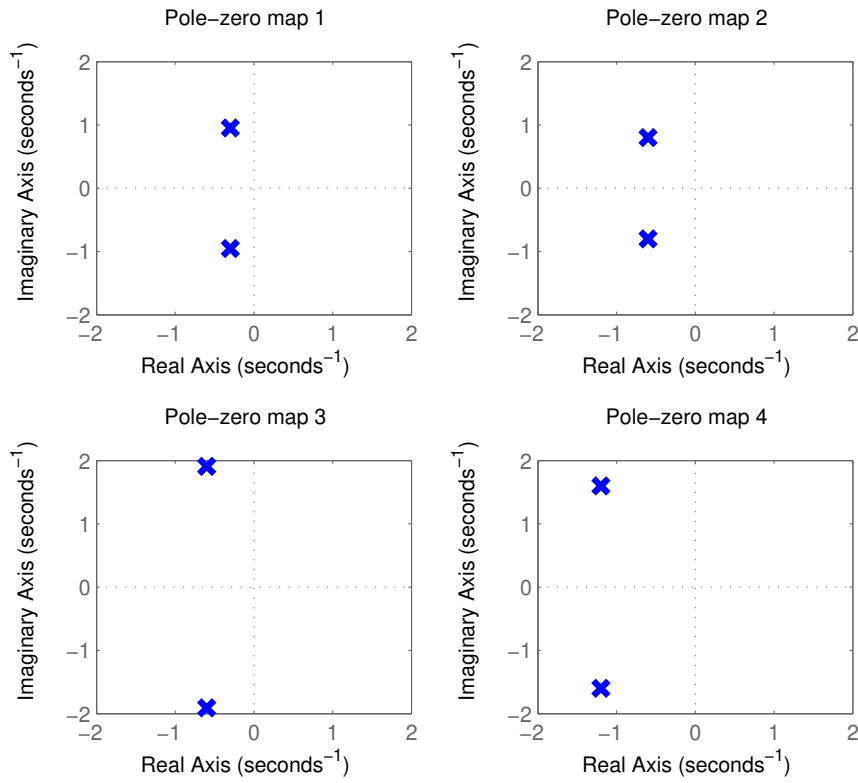
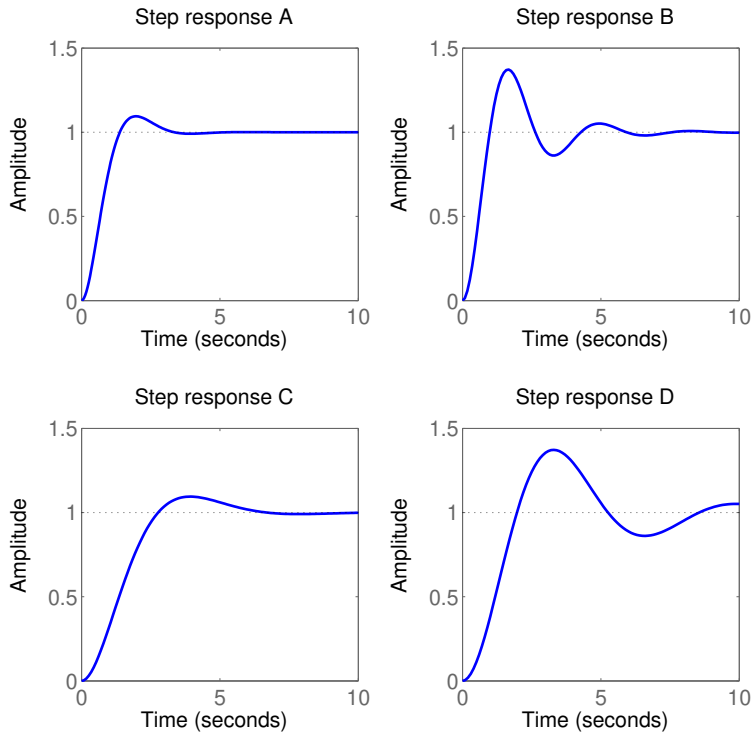

Figure 1 Pole-zero maps for Problem 4
Figure 2 Step responses for Problem 4
4. Figure 1 shows the pole-zero maps of four systems, and Figure 2 shows the step responses of the same systems, but not necessarily in the same order. Match the pole-zero maps 1–4 with the corresponding step responses A–D. Motivate! (4 p)